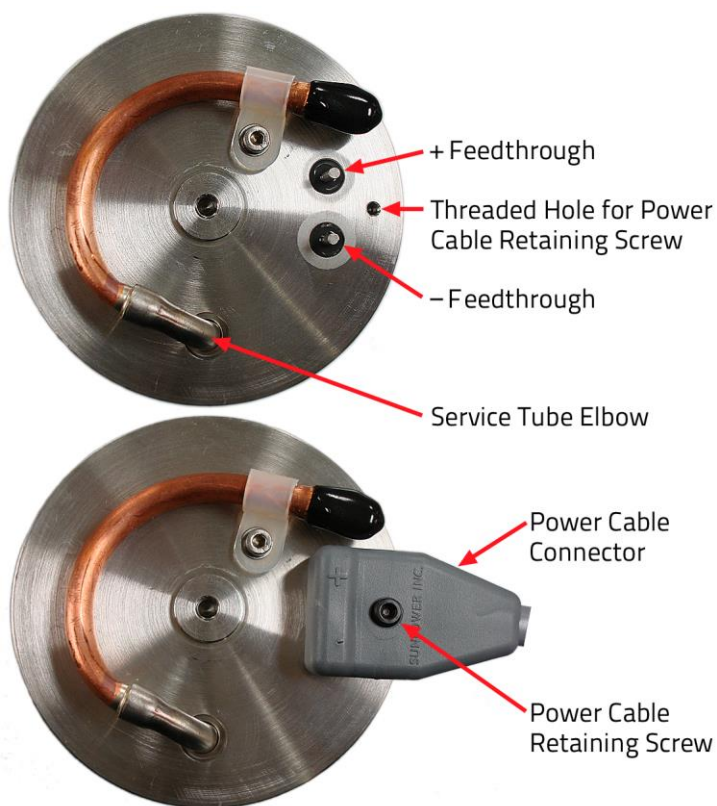

Figure 3-11. Attaching the Cooler Power Cable to the Pressure Vessel
2. Align the two holes in the molded plastic connector on the one end of the cooler power cable with the two feedthrough pins on the end of the MT's pressure vessel and press down to connect the connector (figure 3-11).